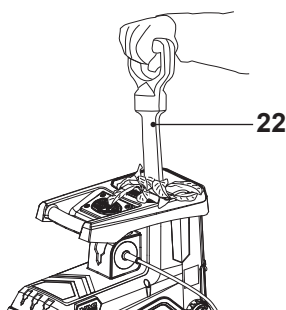

Fig. 12
3. Insert the plunger (22) into the feeding funnel (2) pushing the material onto the cutting blade if required (Fig. 12).